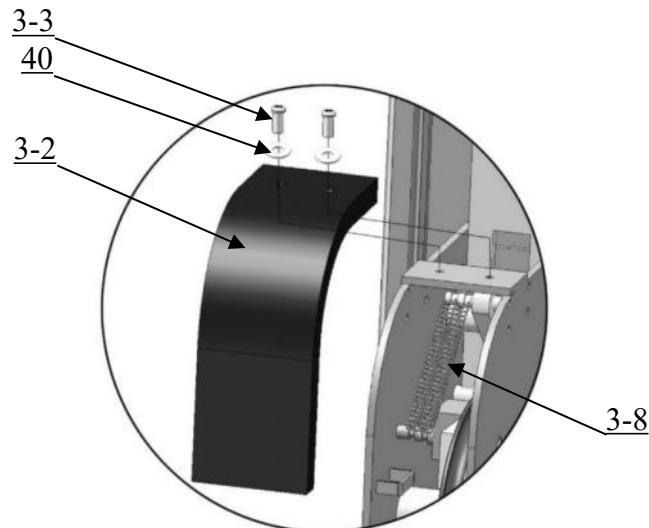

Fig. 35
O. Install Spring and Safety Cover of Cross Beam (See Fig. 35).